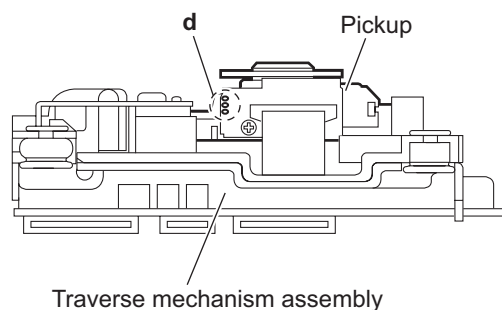

Fig.4
3.2.4 Removing the DVD module board (See Figs.4 and 5)
- (1) From the side of the traverse mechanism assembly, solder the short land sections **d** on the pickup. (See Fig.4.)
- Solder the short land sections **d** on the pickup before disconnecting the card wire from the connector **CN101** on the DVD module board. If the card wire is disconnected without attaching solder, the pickup may be destroyed by static electricity. (See Figs.4 and 5.)
- When attaching the DVD module board, be sure to remove solders from the short land sections **d** after connecting the card wire to the connector **CN101** on the DVD module board. (See Figs.4 and 5.)
3.2.5 Removing the pickup (See Figs.4,6 to 8)
- Solder the short land sections **d** on the pickup before disconnecting the card wire from the connector on the pickup. If the card wire is disconnected without attaching solder, the pickup may be destroyed by static electricity. (See Figs.4 and 6.)
- When attaching the pickup, be sure to remove solders from the short land sections **d** after connecting the card wire to the connector on the pickup. (See Figs.4 and 6.)
3.2.6 Attaching the pickup (See Figs.4,6 to 9)
- (4) Remove solders from the short land sections **d** after connecting the card wire to the connector on the pickup. (See Figs.4 and 6.)